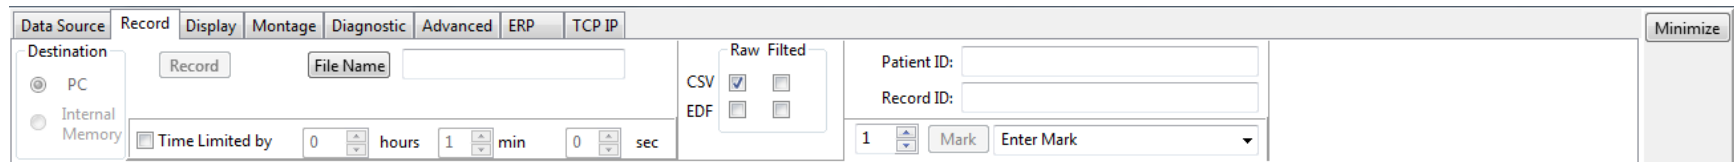

Figure 15 – Record tab with option for writing data to PC selected.
Once data is streaming from the EEG system, data can be recorded by selecting the **Record** tab in the main window (Figure 15).
- The recording options shown to the right of the radio buttons in Figure 15 will automatically appear.